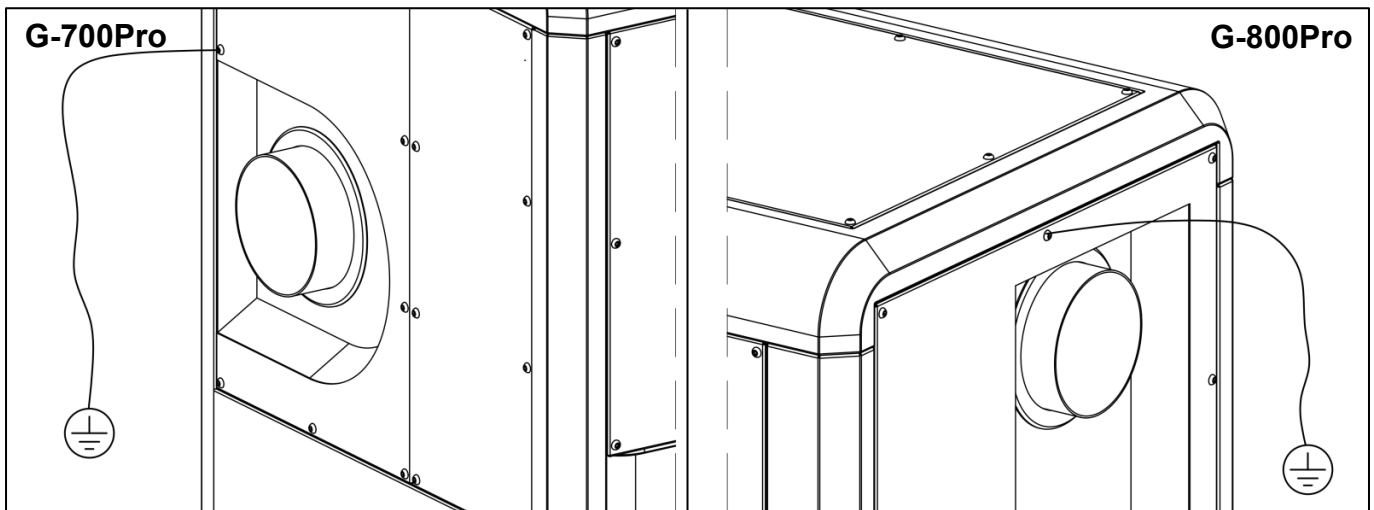

Fig.8
- For flexible hoses, attach conductive grounding tape or cables to the exterior and ground them properly, as shown in **Fig. 8**.